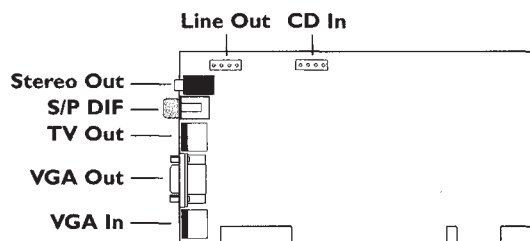
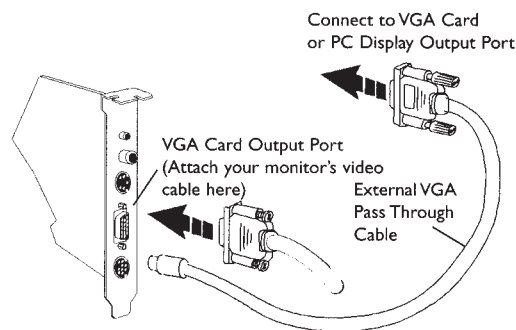

Figure 1. REALmagic Hollywood Plus DVD/MPEG-2 Playback Card
Figure 2. Video Connection
Follow the steps below to install the REALmagic Hollywood Plus DVD/MPEG-2 Playback Card (Figure 1) into your computer.
The DVD/MPEG-2 Playback Card includes an internal CD Audio In connector that allows you to pass CD audio through to the internal CD Audio In connector on your sound card. To do this, attach the CD Audio cable from the DVD-ROM drive to the REALmagic Hollywood Plus DVD/MPEG-2 Playback Card, then attach another cable from the internal Line Out port from the REALmagic Hollywood Plus to the CD Audio In connector on your sound card. Refer to Figure 1 for the locations of these internal connectors.
Your REALmagic Hollywood Plus DVD/MPEG-2 Playback Card must be connected to your VGA card or your PC's VGA output port in order to display MPEG video on your VGA monitor. (Refer to Figure 1 earlier in this Chapter for reference.) Follow the steps to connect the DVD/MPEG-2 Playback Card to your VGA output (see Figure 2).
1. Attach the round 9-pin DIN connector of the provided External VGA Pass-Through Cable to the VGA IN connector at the back of the REALmagic Hollywood Plus DVD/MPEG-2 Playback Card (refer to Figure 1).